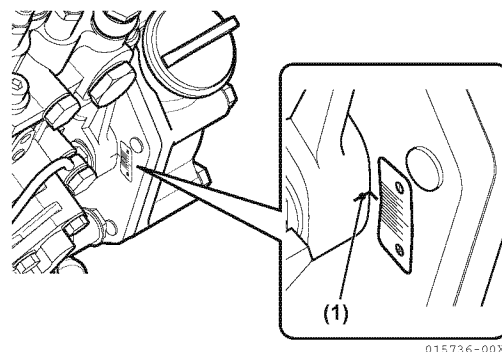

Figure 6-47
In this case, rotate the top of the fuel injection pump away from the cylinder block until the mark on the outside upper mounting boss (**Figure 6-47, (1)**) of the fuel injection pump aligns with the +0.5° mark on the timing sticker.